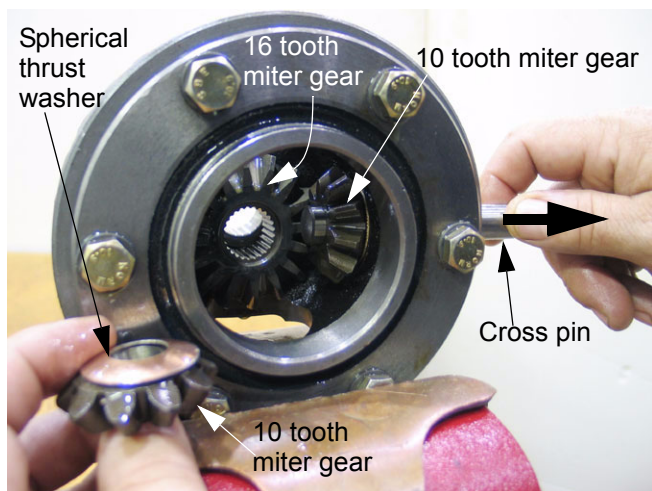

Figure 9.27
- 9.27. With the cross pin removed, the 10 tooth miter gears, and the spherical thrust bearings that fit behind them can be removed. See Figure 9.27.